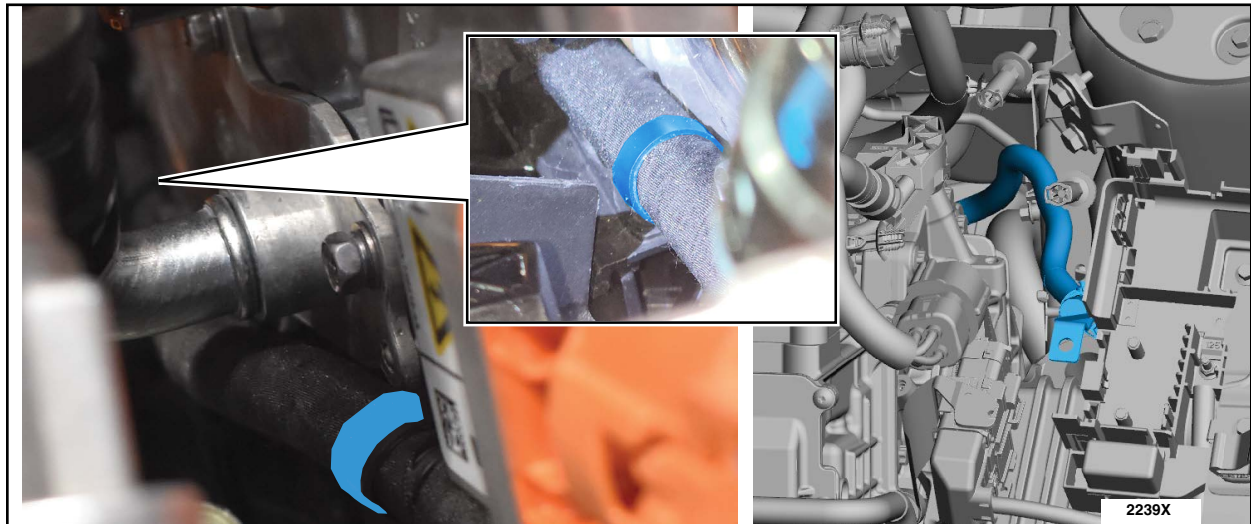

FIGURE 17
22. Secure wire harness to the DC/DC Converter Module stud bolts., with the 2 push pin retainers that are installed on the harness. See Figure 17